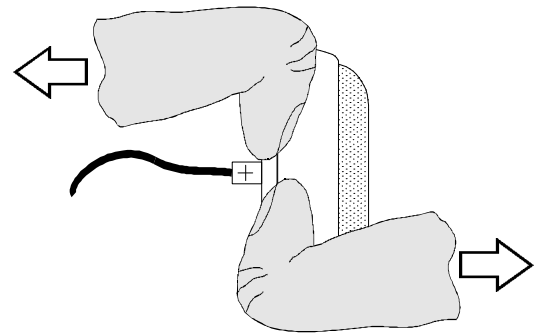

FIGURE 3
- 1) Remove the tweeter's plastic backplate by separating the plate from the tweeter housing with your two thumb nails at one of the terminal locations, gently prying the two pieces until they snap apart. See Figure 3.